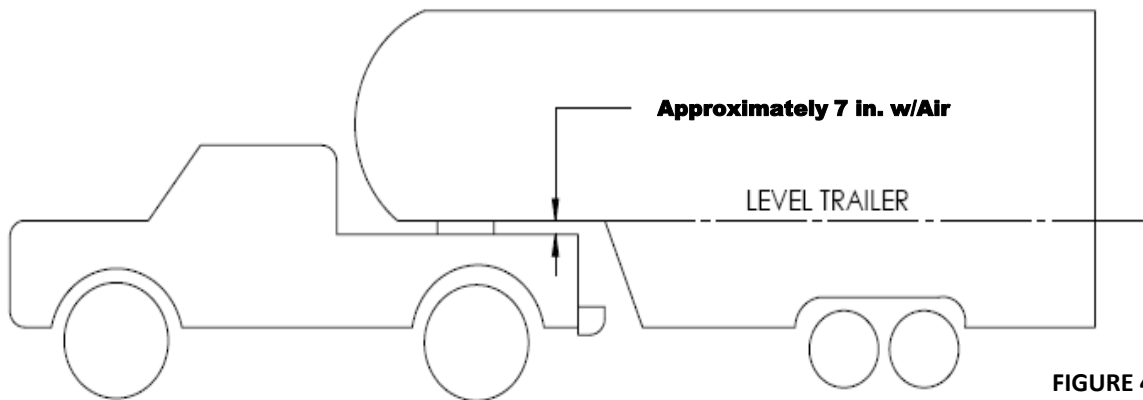

FIGURE 4
4. The height of the Goosebox should be adjusted such that the trailer is approximately level as it is towed. Allow approximately 7 inches clearance between the top of the bedside and the underside of the front of the trailer for pitch and yaw of the trailer (Figure 4).